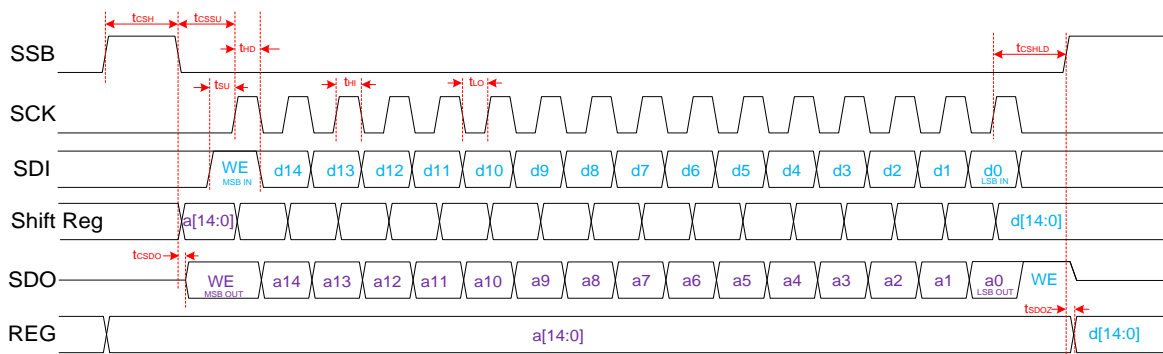
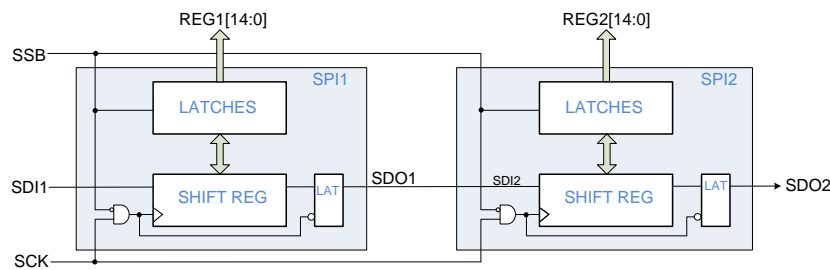
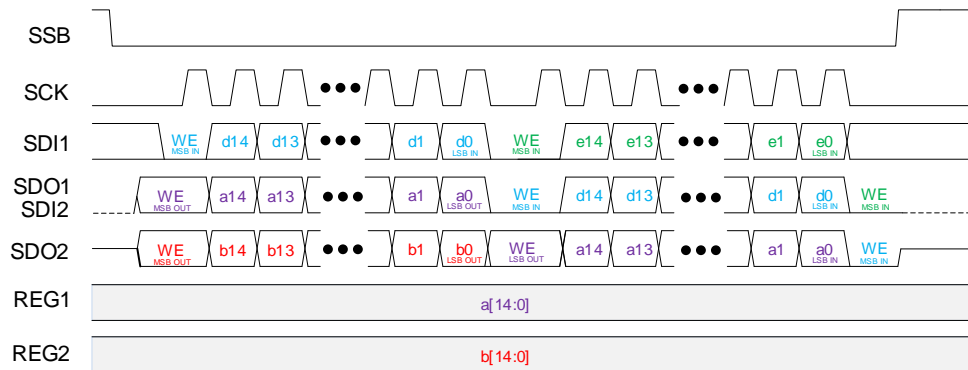
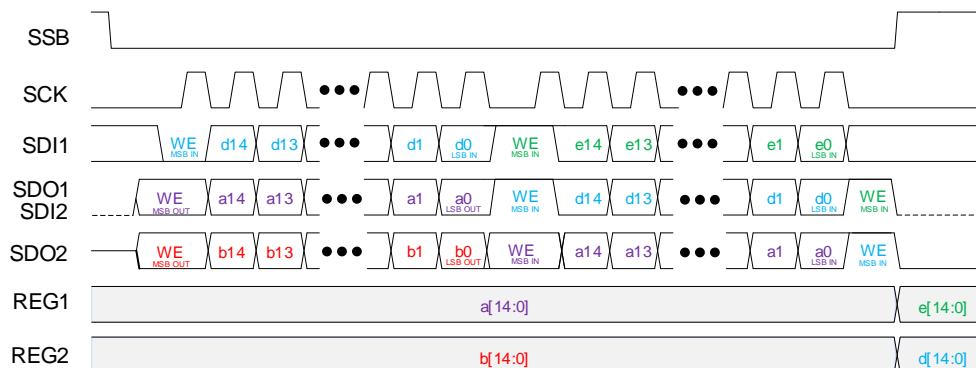

Figure 16. Timing Diagram
Figure 19. SPI with 2 ICs Daisy-chained
Figure 20. SPI Read Only (2 ICs Daisy-chained)
Figure 21. SPI Read & Write (2 ICs Daisy-chained)
MODE = 0, activates the 16-Bit Serial Peripheral Interface (SPI) module for operation. Multiple devices can be daisy-chained to drive multiple ICs using one SPI bus. (See Daisy Chain Operation, Figure 19 through Figure 21). The SPI works at any frequency up to a maximum of 33 MHz and may operate at significantly lower frequencies if the logic signals adhere to the data setup and hold requirements.
SPI timing diagrams are provided in Figure 16 through Figure 21. In SPI mode, data transmission starts when SSB goes Low, causing the Target to output the Most Significant Bit (MSB) of data to the SDO (MISO) pin. Data transfer from Host to Target takes place during the rising edge of the clock (SCK), which is idle when SSB is High. This mode of operation requires data for Host and Target to be present on SDI (MOSI) before the rising edge of the clock (defining SDI to SCK setup time). Data is pushed out of the SDO (MISO) pin during the falling edge of the clock. After the first 16-bit transaction, the Host writes the latest data (DN) to the Target, while the Target passes its previous (DN-1) stored data to the Host. Data is latched into the internal registers at the rising edge of SSB, if WR_EN = 1.
Daisy chaining the ICs is permitted and involves connecting the SDO (MISO) of one chip to the SDIN (MOSI) of the next chip in the chain, as shown in Figure 19. SPI timing diagrams with daisy-chained devices are provided in Figure 20 and Figure 21.